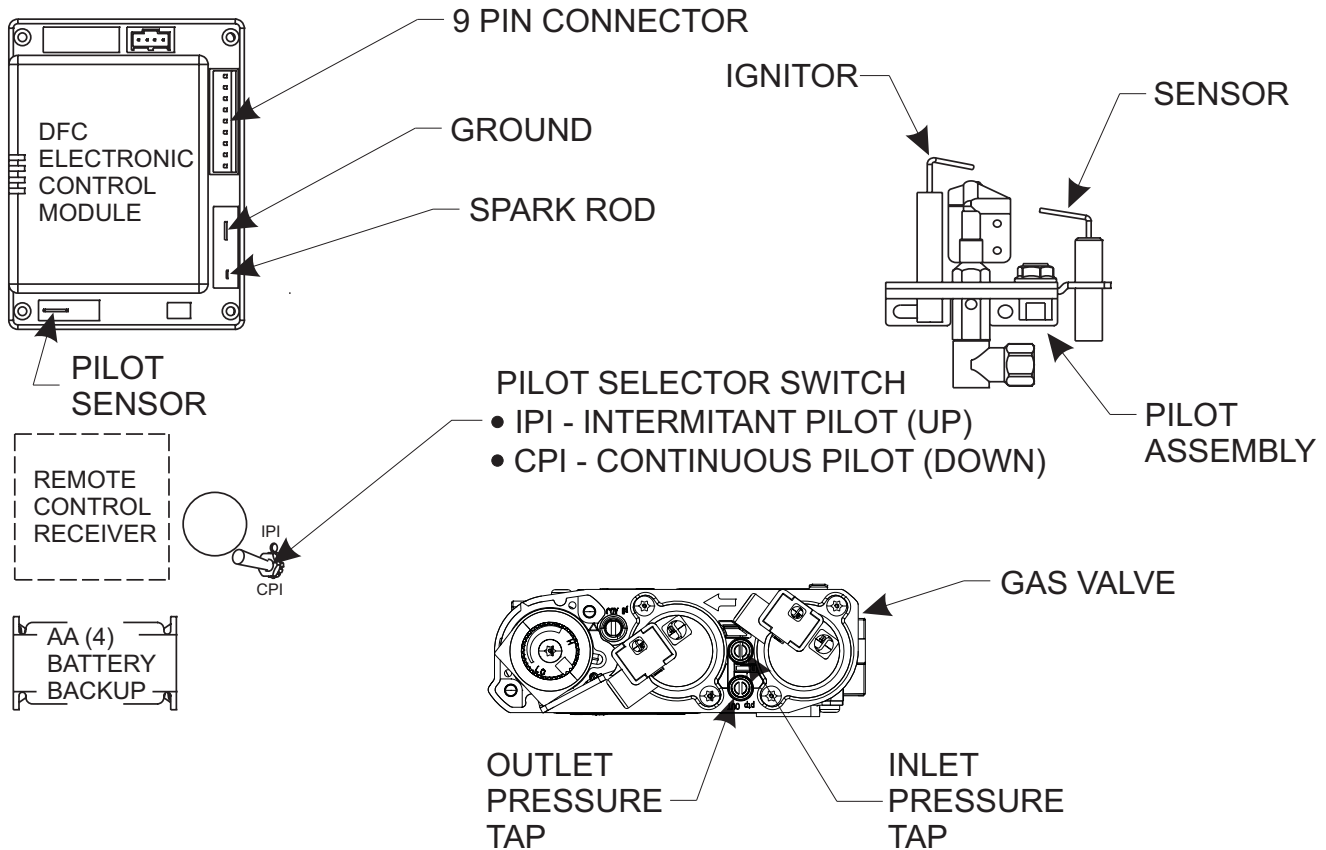

Figure 19
**NOTE:** A small toggle switch is located on a bracket that is used to switch from IPI (upward position) to the CPI (downward position). See Figure 19.
3. The gas valve has inlet and outlet pressure taps as shown in Figure 19. Refer to pages 10 and 11 for gas pressure requirements.
**NOTE:** The gas control has a manual HI/LO flame adjustment knob (regulator) that allows you to increase or decrease the height of the burner flame. See Figure 19. Rotate the HI/LO knob counterclockwise to "HI" to increase the flame height, and clockwise to "LO" to decrease the flame height.